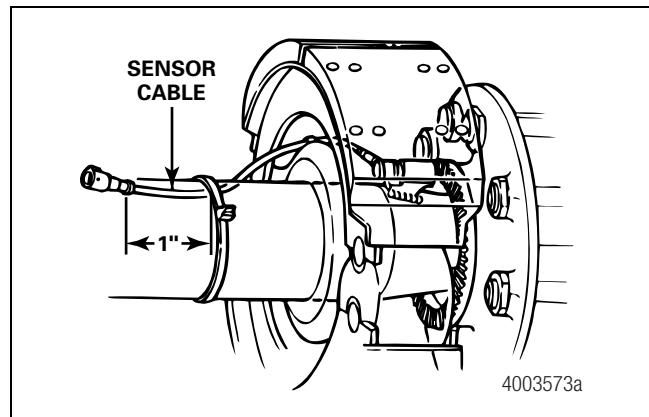

Figure A-2
4. Route the sensor cable toward the brake chamber, over the brake spider or through the pre-stamped hole dedicated to ABS sensors. Route to the back side of the axle. Secure the cable to the axle between the brake spider and the suspension brackets. Continue to route the sensor cable behind the spring seats. Secure the cable to the axle one inch from the molded sensor plug. Figure A-2.